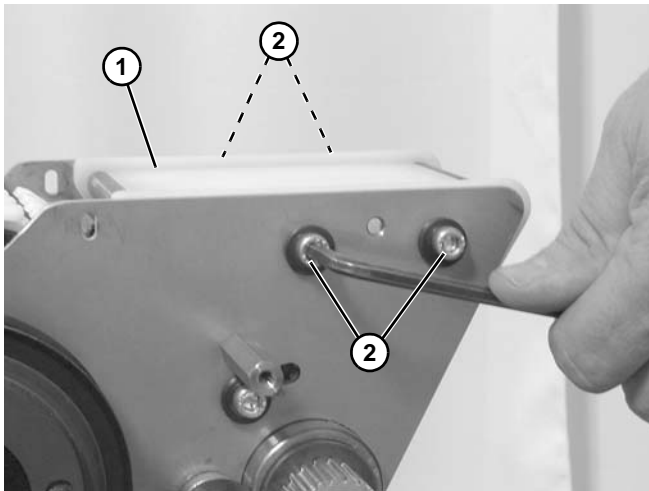

Figure 173
5. Install wear bar assembly (**Figure 173, item 1**) with four socket head screws (**Figure 173, item 2**).